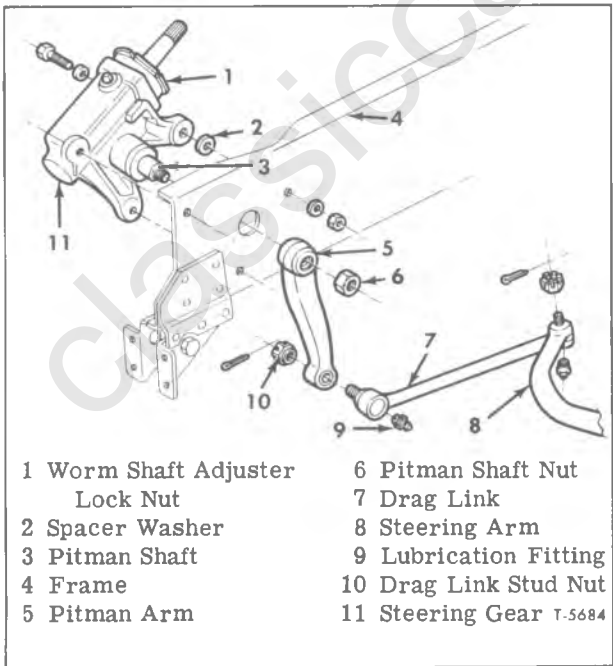

Figure 9—Steering Linkage ("T" Models)
4. On all tilt cab models, install spacer washer (2) between steering gear and frame at rear bolt location as shown in figure 9.
(Refer to Figure 9)
A non-adjustable drag link or connecting rod (fig. 9, Item 7) is used to connect the pitman arm to the left steering arm. No periodic maintenance is required other than lubrication and keeping stud nuts properly torqued. If the drag link or connect-